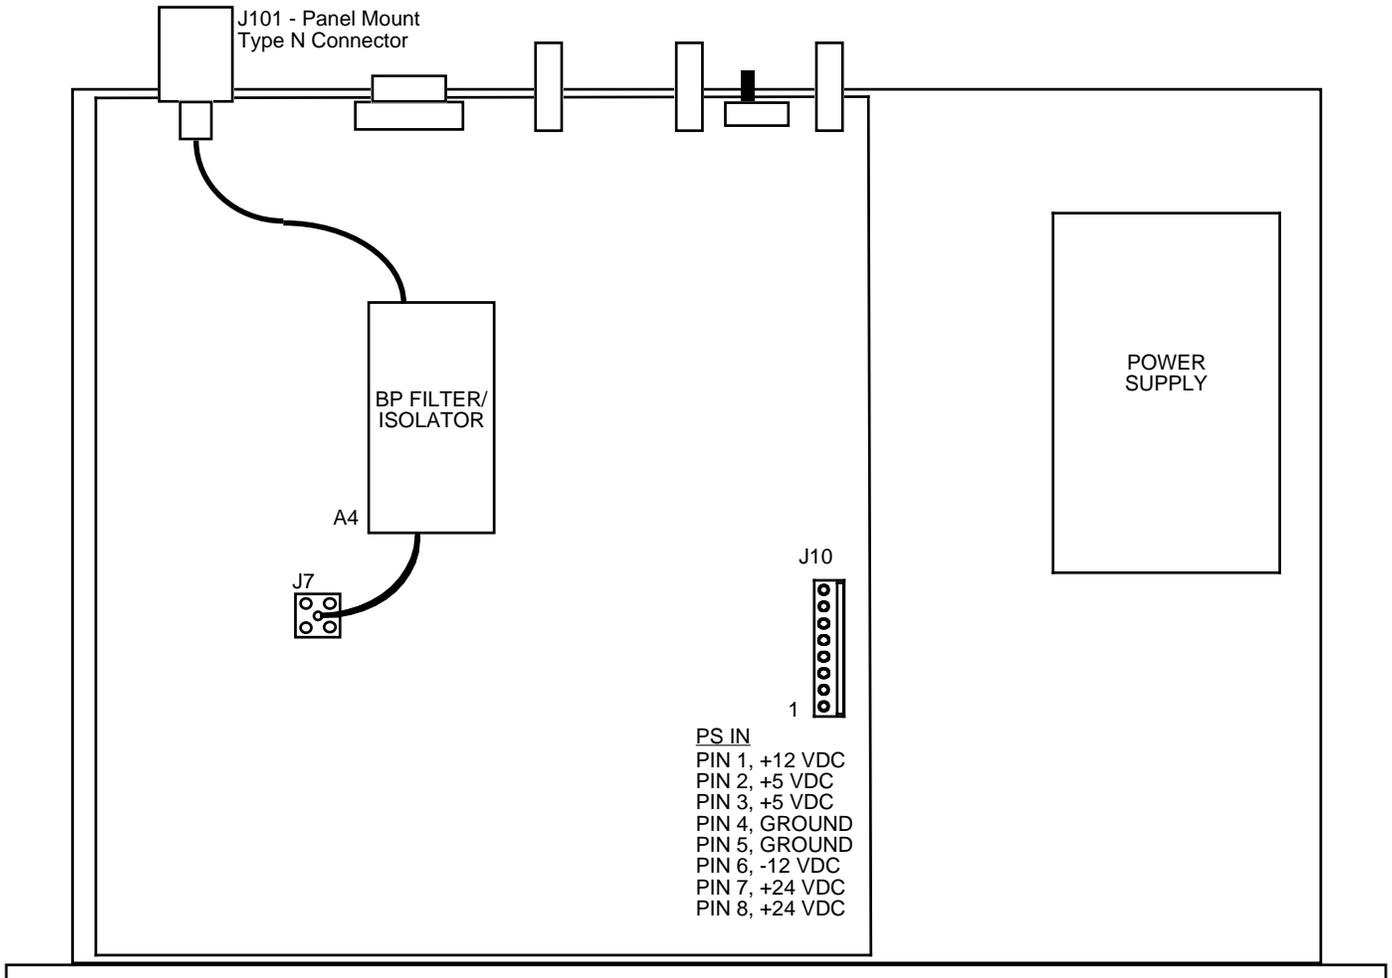

FIGURE 2.0 2115-58 Mechanical Assembly
2.1 Mechanical - The 2115-58 consists of one RF PCB housed in a 1 RU (1 3/4 inch high) by 12 inch deep chassis. A switching, ± 12 , +24, +5 VDC power supply provides power for the assemblies. The 2115-58 can be secured to a rack using the 4 holes on the front panel. Figure 2.0 shows how the 2115-58 is assembled.